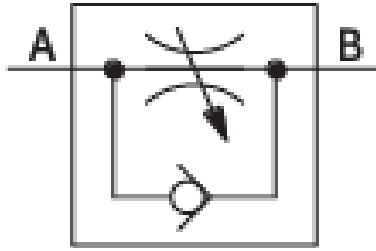

Figure 5.7: A one-way flow control valve and its symbol.
- **Symbol:** A throttle and check valve in parallel, as shown in Figure 5.7.